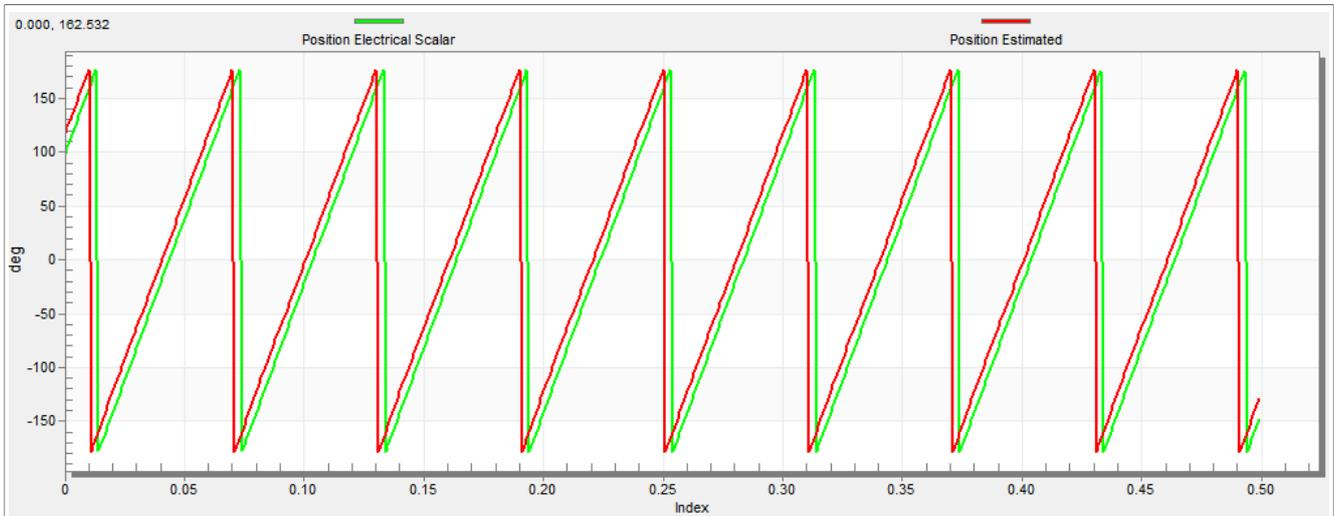

Figure 28. Generated and estimated positions
6. Select the "Position" recorder to check the observer functionality. The difference between the "Position Electrical Scalar" and the "Position Estimated" should be minimal (see Figure 28) for the BEMF position and speed observer to work properly. The position difference depends on the motor load. The higher the load, the bigger the difference between the positions due to the load angle.